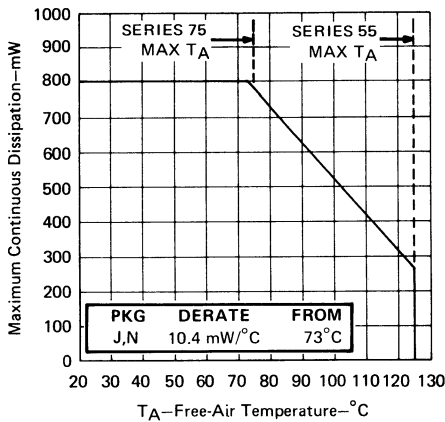

FIGURE 3
2. For operation above 25°C free-air temperature, refer to Dissipation Derating Curve, Figure 3.